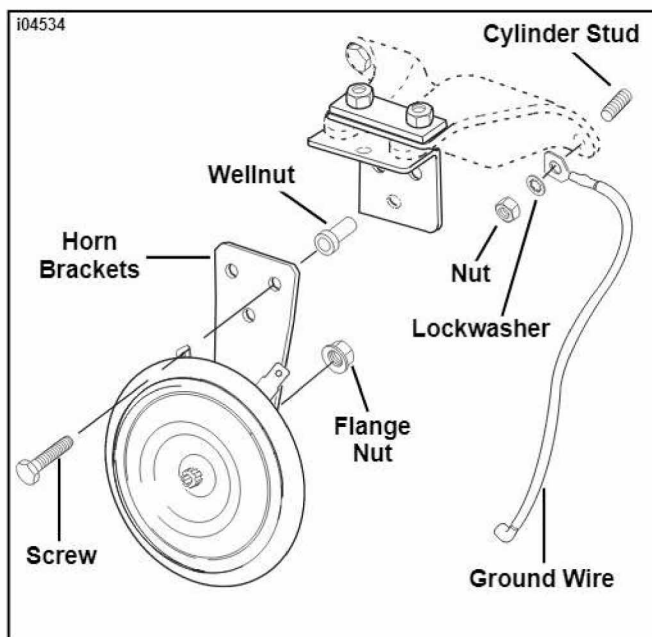

Figure 7. Install Horn Assembly
14. See Service Parts Illustration and Figure 7. Obtain the Horn (7), two Horn Brackets (6) and metric Flange Nut (5) from kit. Sandwich the two brackets together and orient brackets with three mounting holes toward the top and lower hole over horn stud. Make sure horn terminals are at the top of the horn. Place a few drops of Loctite 243 (blue) on threads of flange nut and and fasten bracket to horn. Tighten to 110 **in-lbs** (7-14 Nm).
15. Obtain three Screws (4) and three Wellnuts (3) from kit. Orient the wellnuts as shown and push into bracket. Install three screws through horn bracket and into wellnuts. Tighten screws to 6-9 **in-lbs** (.7-1 Nm) making sure wellnuts expand thoroughly and secure horn bracket to frame bracket.
16. Obtain Ground Wire (1) from kit. Remove the right side engine mounting bracket nut. Install ring terminal of ground wire to stud and reinstall. Tighten nut to 25-30 ft-lbs (34-41 Nm).